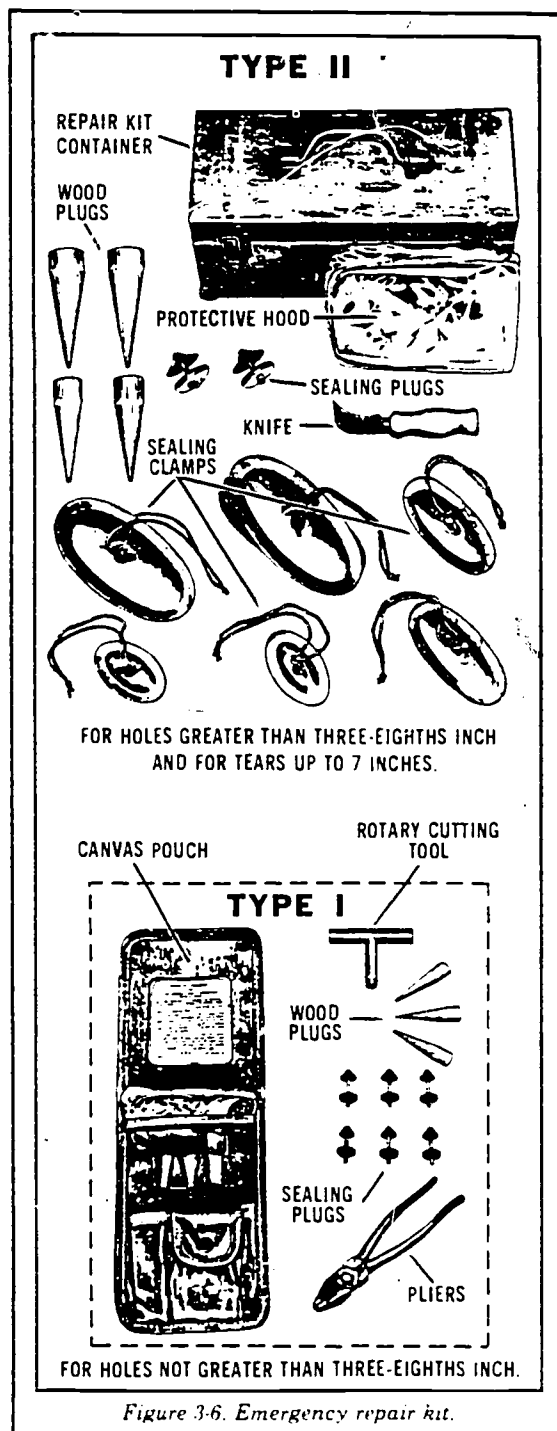

Figure 3-6. Emergency repair kit.
□ **Emergency repair kit.** The emergency repair kit (fig 3-6) is used for temporary repairs only. In other words, it contains items to stop leaks until the operator can empty the drum. There are two parts to the repair kit; types I and II. Type I is used for holes no larger than 3/8 inch. Type II is for holes larger than 3/8 inch and tears up to 7 inches. The installation of tapered sealing plugs and sealing clamps is discussed on page 14-13. Repaired drums should not be towed,
Emergency repair items (fig 3-6) are issued with each collapsible tank. They include two 3-inch tapered wood plugs, two 5-inch tapered wood plugs, four 3-inch sealing clamps, two 5-inch sealing clamps, two 7 1/2-inch sealing clamps, and O-rings and gaskets. These items are to be used only for emergency or temporary repairs. A ruptured tank may be repaired in the field, but it should be carried to the general support maintenance facility as soon as possible for permanent repair. Page 14-13 has more on emergency tank repair. ⑦